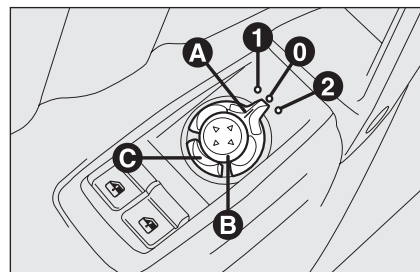

fig. 34
Use device **A-fig. 34** to select the required mirror:
When required (for example when the mirror causes difficulty in narrow spaces) it is possible to fold the mirrors by pressing button **C-fig. 34**.
To bring the mirrors back to driving position press again button **C-fig. 34**.
- ☐ turn selector **A-fig. 34** to **2** (to select the passenger door mirror);
Proceed as follows: fit the electronic key into the ignition device; engage reverse; turn selector **A-fig. 34** to **2** (to select the passenger door mirror).
The mirror will automatically return to its original position 10 seconds after disengaging reverse, when the car speed exceeds 10 km/h in forward gear or when turning selector **A-fig. 34** to **0**.